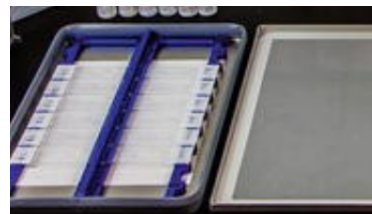

Figure 7: Hybridization Tray
8. Place slides into slide insert of hybridization tray and, using a P200 pipette, slowly **add 400 μ L (2 x 200 μ L) of digestion buffer to the tissue within incubation frame** (Figure 7). Gently move tray side to side as needed to **ensure that digestion buffer covers the entire tissue.**